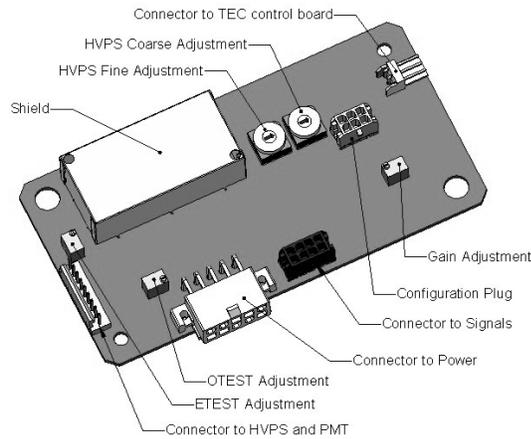

Figure 11-4: Pre-Amplifier Board Layout
5. Locate the Following Components On the Preamp board (Figure 11-4):